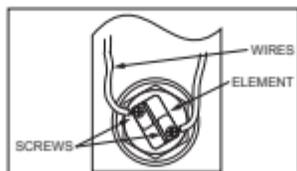

Figure 11
4. Disconnect the electrical wires from the heating element(s) by loosening the screws (Figure 11). Remove the screw-in element(s) by turning the element(s) counterclockwise with a 1-1/2 inch socket wrench. Remove the existing gasket(s).